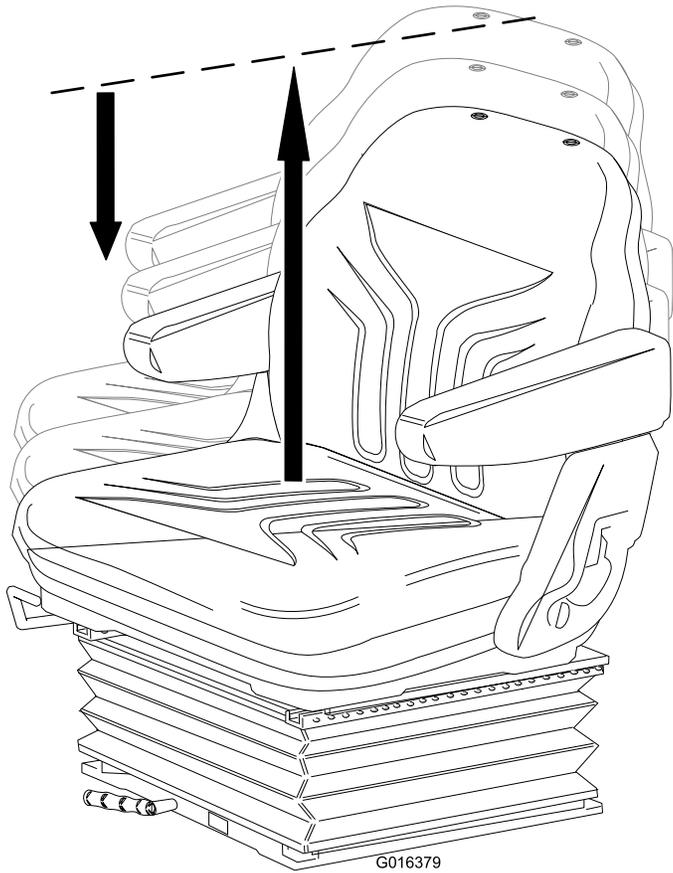

Figure 24
- Manually lift the seat for incremental height adjustment (Figure 24).